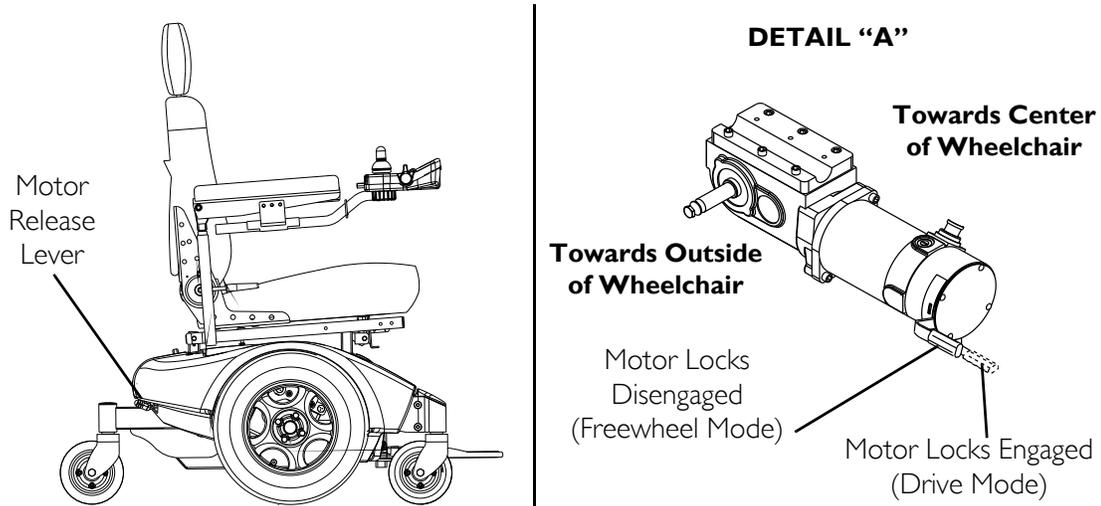

FIGURE 11.2 Engaging/Disengaging Motor Release Lever
NOTE: For this procedure, refer to FIGURE 11.2 on page 73.
- i. Slide the motor lock lever towards the outside of the wheelchair (free wheel position) as shown in Detail "A" of FIGURE 11.2.
- i. Slide the motor lock handles towards the center of the wheelchair (drive position) as shown in Detail "A" of FIGURE 11.2.